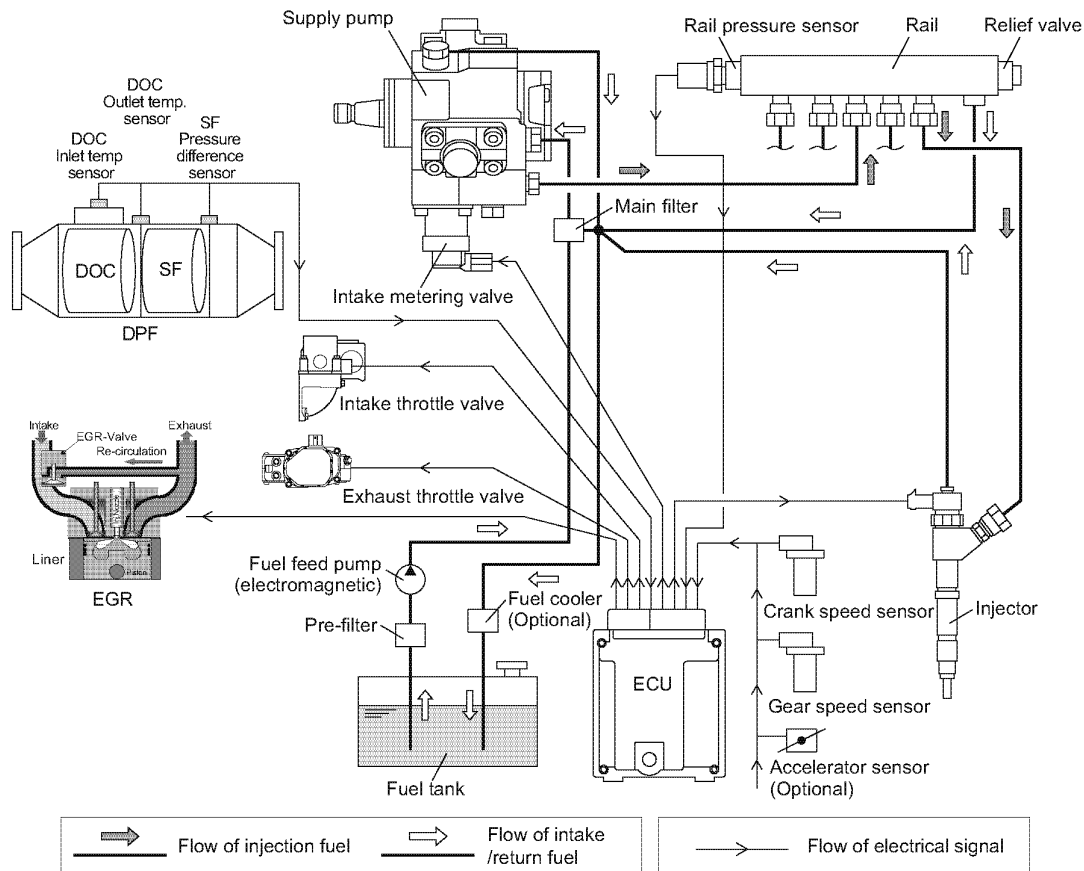

Figure 9
1. common rail system, 2. EGR system that controls the exhaust gas recirculation amount in accordance with the engine load and the number of rotation to comply with the EPA emission requirements (EPA2012), and 3. a system that controls the operation of the DPF regeneration mode by adjusting the intake throttle depending on the state (clogging) of the diesel particulate filter (DPF) of the post-processing device. **Figure 9** illustrates the outline of such electronic control system.